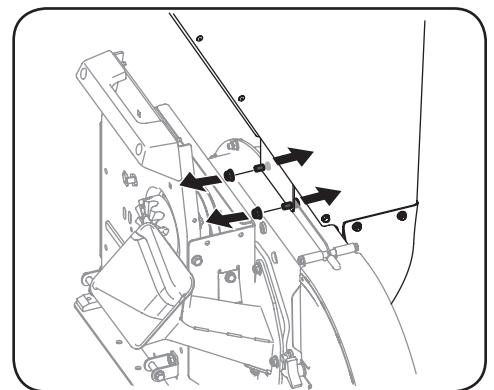

Figure 5-13
- Remove the two flange nuts (and hex bolts) which secure the hopper support bracket to the impeller housing. Retain the hardware. See Figure 5-13.